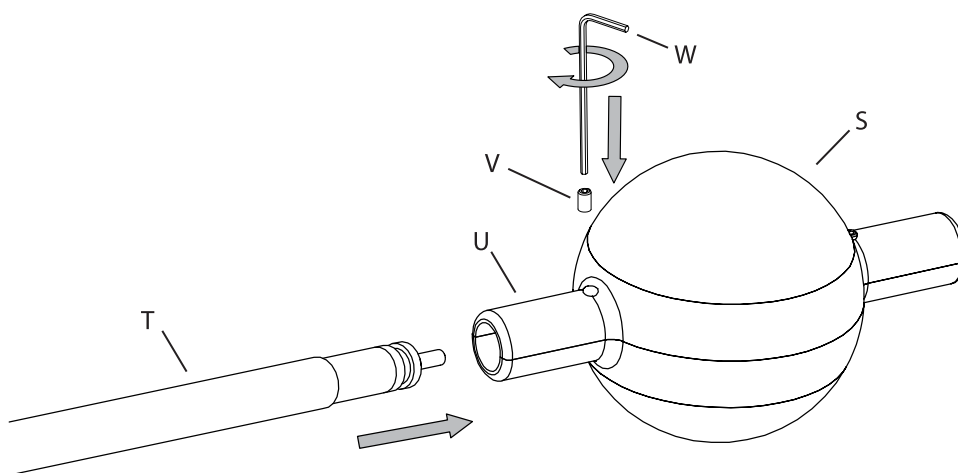

Fig. 2a
1. Attach a Hub (S) to the end of each Power Feed Cord (T) by fully inserting the Cord into a Neck (U) on the Hub (Fig. 2a) and installing the M2 Set Screw (V) into the Neck (U) of the Hub, using the Small Hex Wrench (W) provided, and tightening until it comes in contact with the plastic cap on the Arm. **CAUTION: Do not over tighten the set screws.**